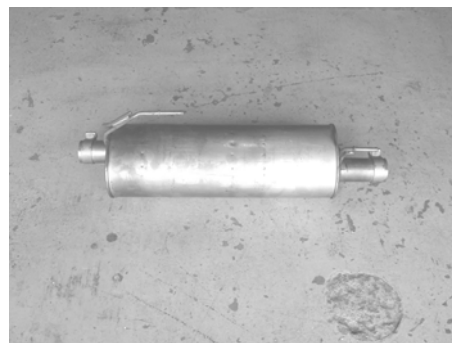

Figure 6
9. Using a muffler stand or an additional person to hold the front muffler assembly in place, remove the hangers from the rubber brackets and remove the front muffler assembly shown in figure 6 from the vehicle.